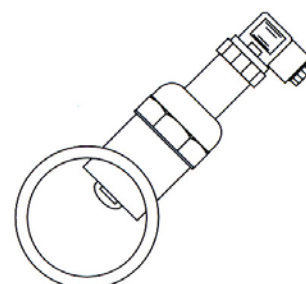

FIG. 3
- Fig. 3: installation if sediment or air pockets are present